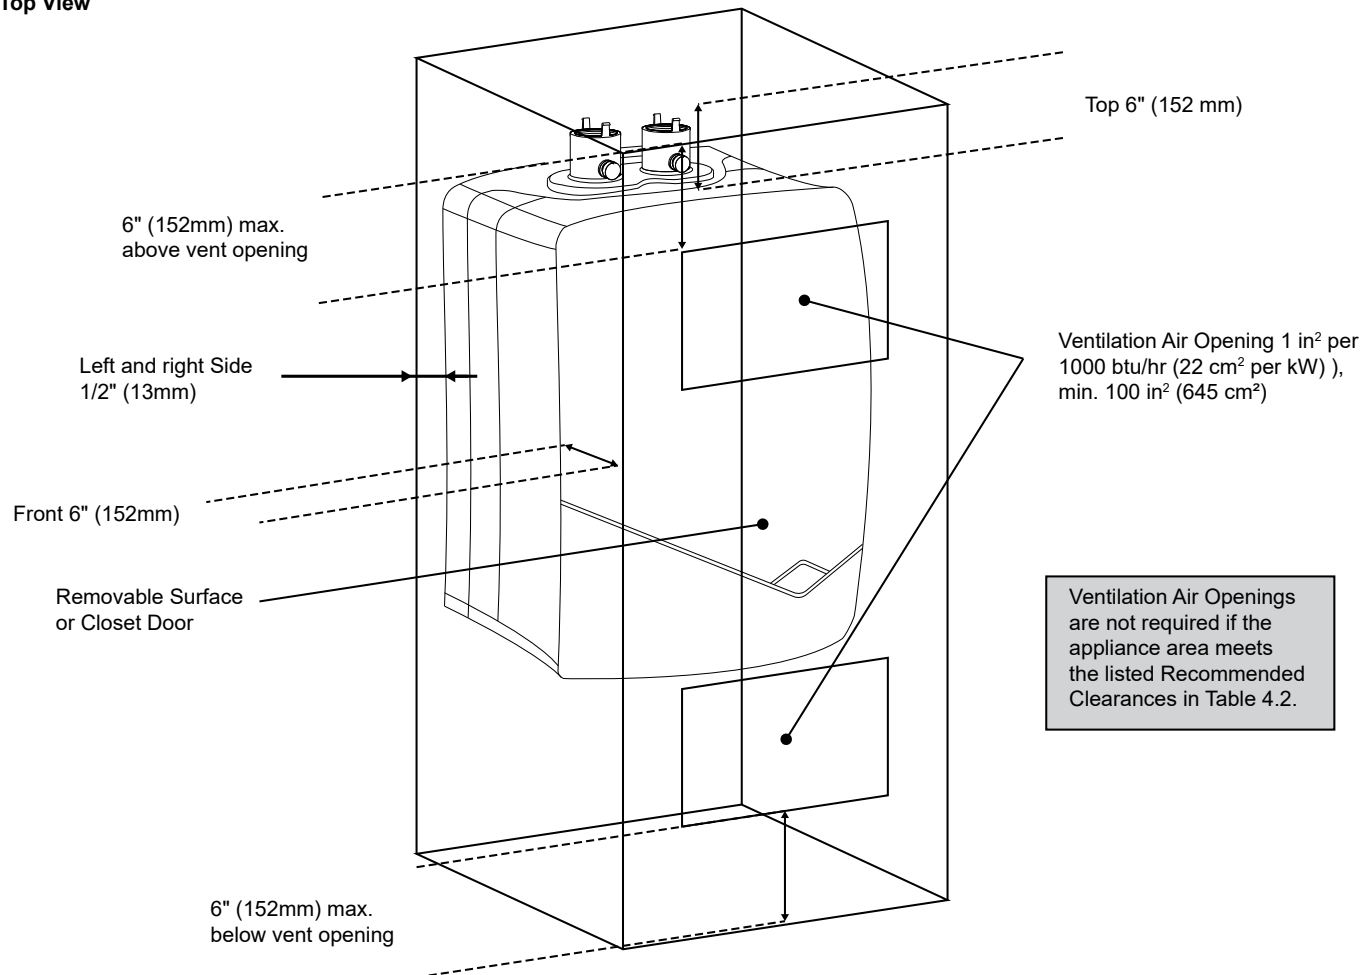

Figure 4.2: Closet Clearances
For closet installations, it's necessary to provide two ventilation air openings as shown in *Figure 4.2: Closet Clearances* each providing a minimum area equal to $22 \text{ cm}^2/\text{kW}$ (1 in^2 per 1000 Btu/hr), but not less than 645 cm^2 (100 in^2) and within 152 mm ($6''$) of the top and bottom of the closet door. See Table 4.2 for minimum recommended clearances.
Alcove installations have the same minimum clearances as closet installations, except the front must be completely open to the room at a distance no greater than 18" (457 mm) from the front of the appliance and the room is at least three (3) times the size of the alcove. Provided these conditions are met, the appliance requires no extra ventilation air openings to the space. See *Figure 4.2: Closet Clearances* for minimum recommended clearances.
If appliance area clearances are less than the recommended clearances specified in *Table 4.2: Minimum clearances for installation and services*, the appliance area must be ventilated (*Figure 4.2: Closet Clearances*). Each ventilation air opening must meet the minimum requirements of 1 in² per 1000 Btu/hr (22 cm² per kW) but not less than 100 in² (645 cm²). The lower ventilation opening must be located within 6" (152 mm) of the floor while the upper opening must be located 6" (152 mm) from the top of the space.
¹ 6" (152 mm) if front surface is removable allowing 20" (508mm) clearance (i.e. closet installation). See ventilation air opening dimensions in figure 4.2